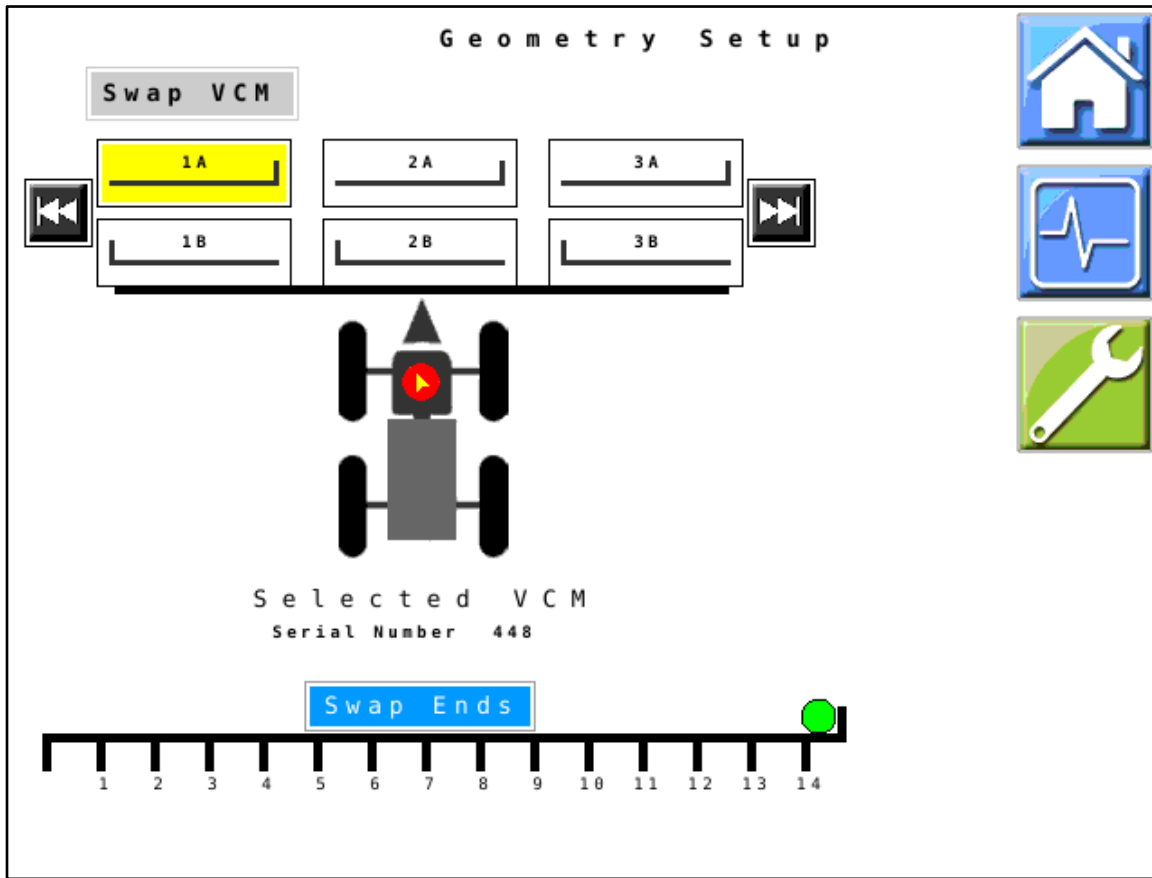

Figure 4 — Geometry Setup
5. *Figure 4:* VCMs must be in the correct order and orientation on the boom. If there is only one VCM connected to a hub CAN channel, use the **Swap Ends** icon **Swap Ends** with that VCM highlighted to orient the VCM correctly on the boom. VCMs can be mounted with the tube towards the center of the machine (green dot) and the pigtail running towards the outside tip, or vice versa.